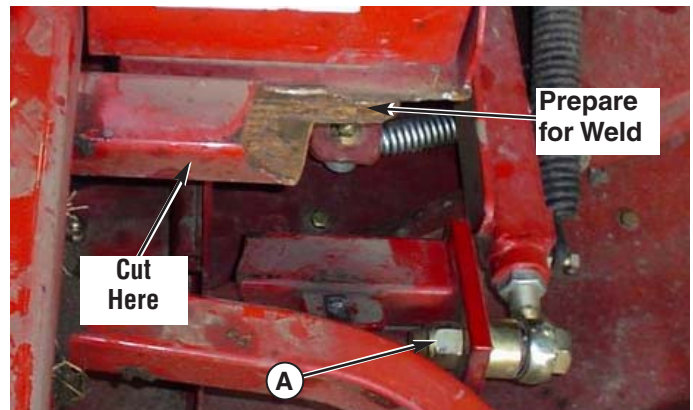

Figure 3. Remove 3/4" Hardware and Cut Cross Member
3. Remove the 3/4" hardware (A, Figure 3) securing the rear suspension arm to the broken part of the frame cross member. Set the hardware aside for reinstallation.
4. Refer to Figure 3. Cut the frame perpendicular on the inside of the break. Prepare the surface for weld to the repair section.